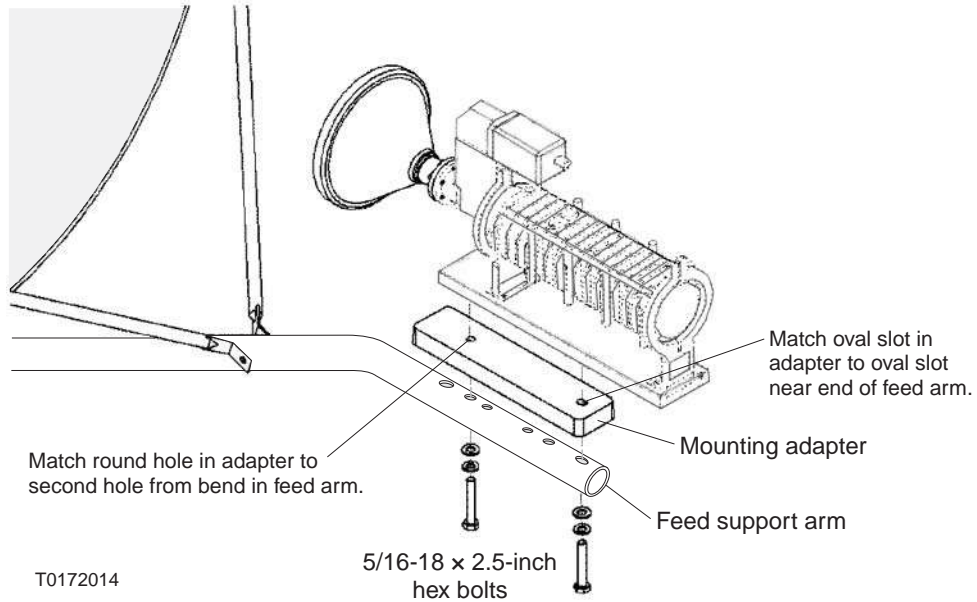

Figure 36: Mounting the radio on the feed support arm
1. Place the mounting adapter and radio assembly onto the feed support arm, as shown in Figure 36.
There are six holes on the top surface of the feed support arm. Use the oval slot at the end of the arm and the second hole from the bend in the arm, as shown in Figure 36.